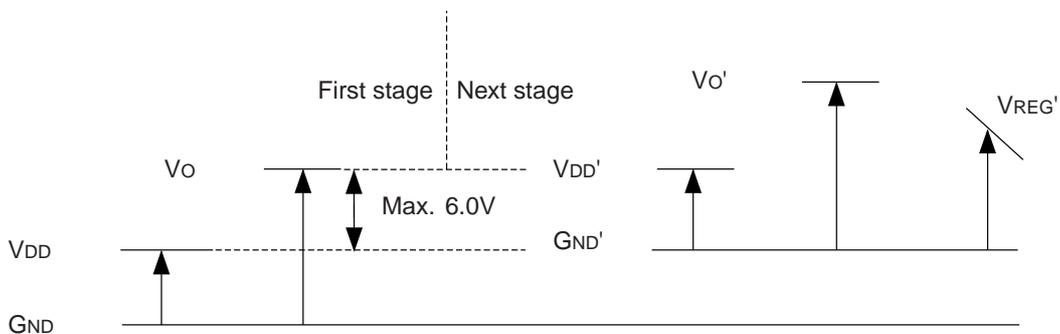

**Figure 8.4 Series Connection**
When S1F76640 is connected in series ( $V_{DD}$  and  $V_O$  in the previous stage are connected to GND and  $V_{DD}$  in the next stage respectively), the output voltage can be increased more. But the series connection makes the output impedance high. Figure 8.4 shows an example of the series connection to get  $V_O=25V$  from  $V_{DD}=5V$  and to stabilize it.
When a load is connected between GND in the first stage (or potential below GND in the second stage other than that) and VREG in the second stage as shown in Figure 8.4, pay attention to the following. When a normal output is not available at the VREG pin at the starting time or when the  $\overline{\text{POFF}}$  signal turns off VREG, current may flow from GND in the first stage (or potential below GND in the second stage other than that) to the VREG pin in the second stage through the load and a voltage higher than the absolute maximum rating below GND in the second stage may be generated at the VREG pin. As a result, the IC may not work normally. For series connection, connect the diode D1 between VDD and VREG in the second stage as shown in Figure 8.4, so that no potential below GND in the second stage is added to the VREG pin.
**Note 2 :** Figure 8.4 shows 3 times step-up in the first stage and 4 times step-up in the next stage, but 4 times step-up is possible both in the first stage and in the next stage unless the input voltage  $V_{DD}'\text{-GND}'$  exceeds the specification value (6.0V). This means that each IC in this series connection is requested to satisfy the specification values ( $V_{DD}\text{-GND} \leq 6.0\text{V}$ ,  $V_{O}\text{-GND} \leq 24\text{V}$ ). (See Figure 8.5.)